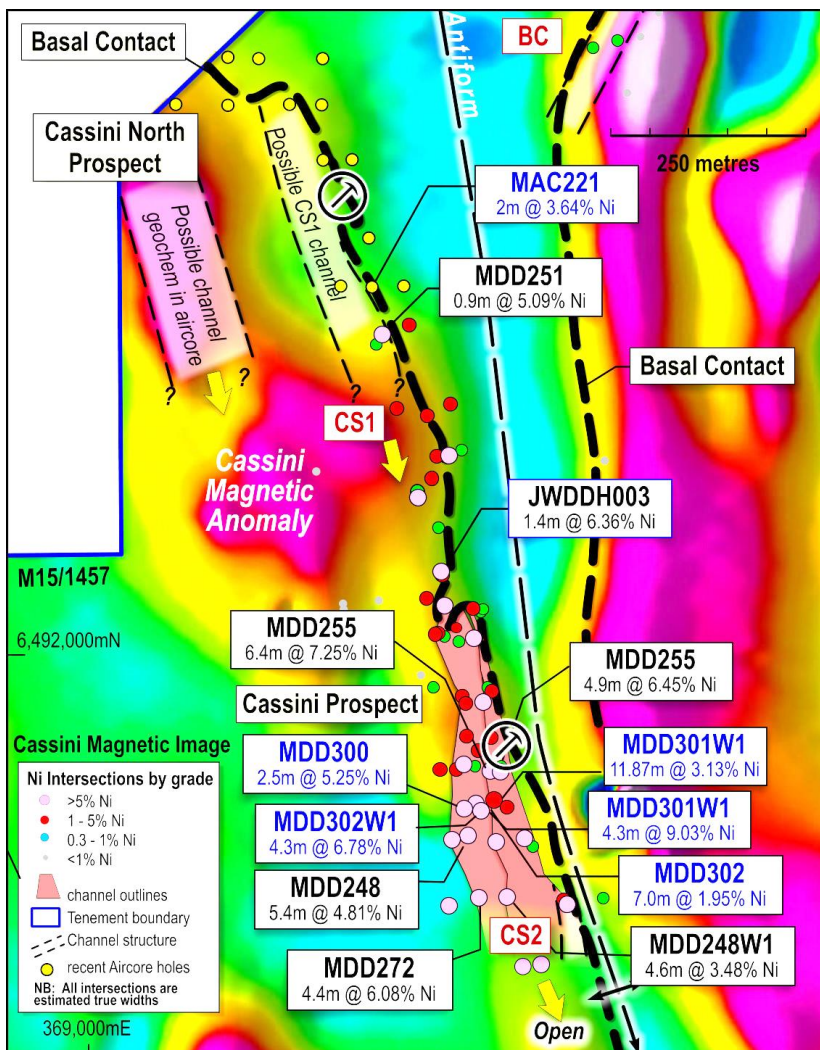
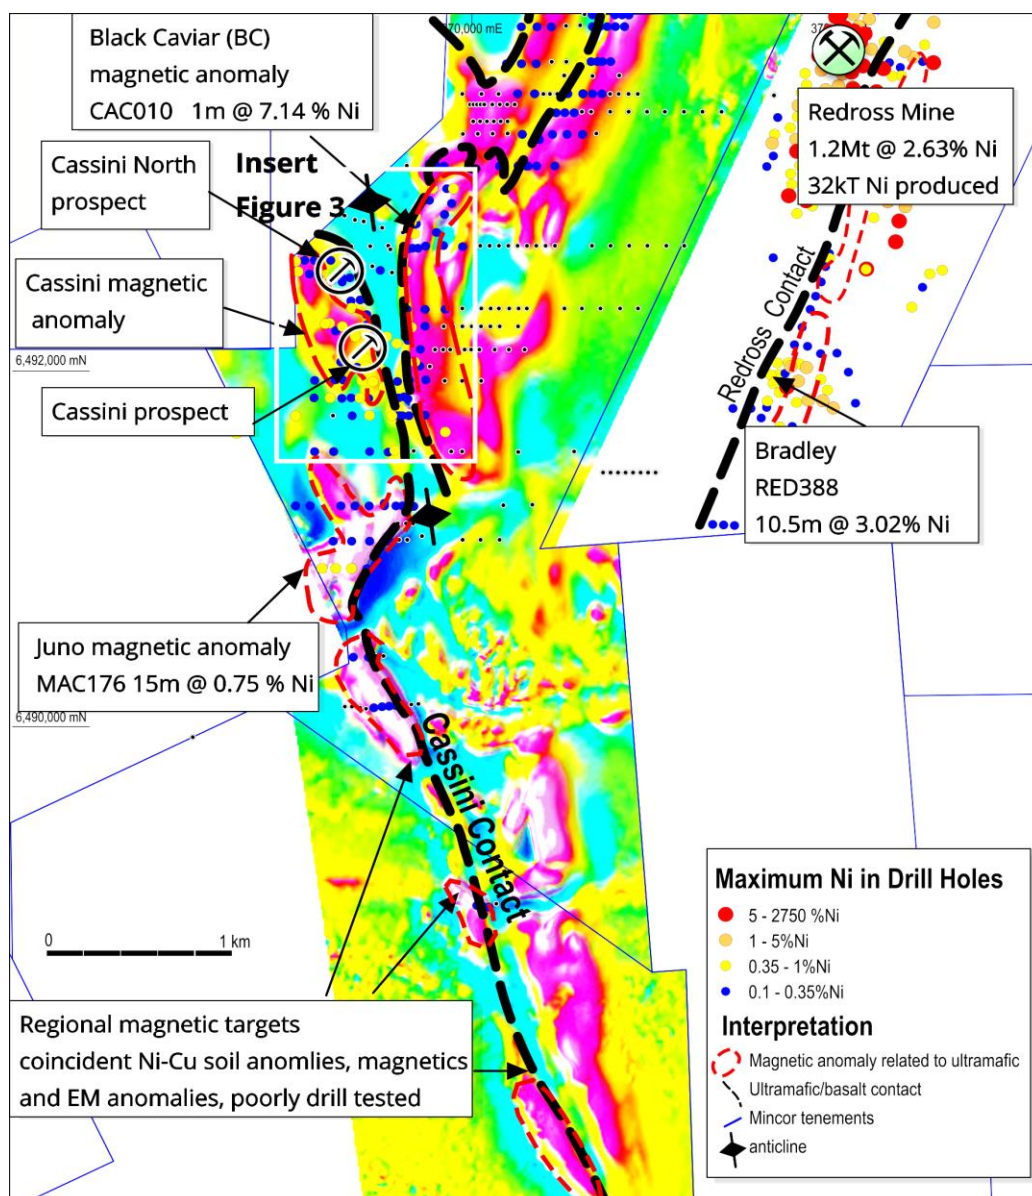

FIGURE 3: Cassini new high-resolution magnetic image showing the CS1 and CS2 channels and Cassini magnetic anomalies#
FIGURE 4: High-resolution magnetic image of the Southern Widgiemooltha Dome, showing the key basal contact position and location of advanced prospects
- High grade mineralisation and anomalous nickel result at Cassini North are coincident with magnetic features – evidencing the presence of a separate new mineralised channel and the likely location of the CS1 channel up-plunge (Figure 3). High priority follow-up diamond drilling is about to commence.
- Results from the Cassini Prospect have substantially upgraded the nickel sulphide prospectivity around the Southern Widgiemooltha Dome, which has had limited historical nickel exploration. Beyond the Cassini Prospect, the new aeromagnetic dataset shows anomalies that sit alongside the key basal contact which warrant further drilling (Figure 4).
The Cassini Prospect is an important blind, near-surface nickel sulphide discovery made by Mincor in 2015. Two mineralised channel trends, CS1 and CS2, have been discovered to date. Other undiscovered mineralised channels are postulated and believed to be generating a number of magnetic anomalies of interest nearby (Figure 3).
The prospective strike length of basal contact around Cassini is effectively doubled because of folding (see Figure 3 and Figure 4).
Some of these promising magnetic anomalies have encountered disseminated nickel sulphides from past reconnaissance drilling programs by Mincor, highlighting the potential for multiple new discoveries. These anomalies are yet to be fully tested with drilling. The bedrock geology is concealed under cover in the area (Figure 3 and Figure 4).
Highly encouraging high-grade nickel mineralisation was returned in one hole (see highlights and Table 1) as well as promising litho-geochemistry indicators in several holes. These positive results provide supportive evidence for both the presence of a separate mineralised channel and the likely location of the CS1 channel up-plunge (Figure 3 and Figure 4). The drilling also showed increasing depth of paleochannel cover to over >100m at the northern tenement boundary, resulting in a number of holes failing to reach the basement geology.